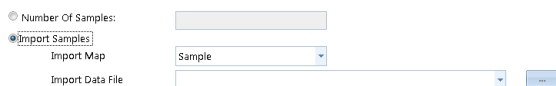

Figure 10 Import Samples options in the User Login (Page 1 of 3)
- f (Optional) Import samples from a file as an alternate to entering a value for the number of samples as shown in Figure 10, if sample import is configured for your user group.